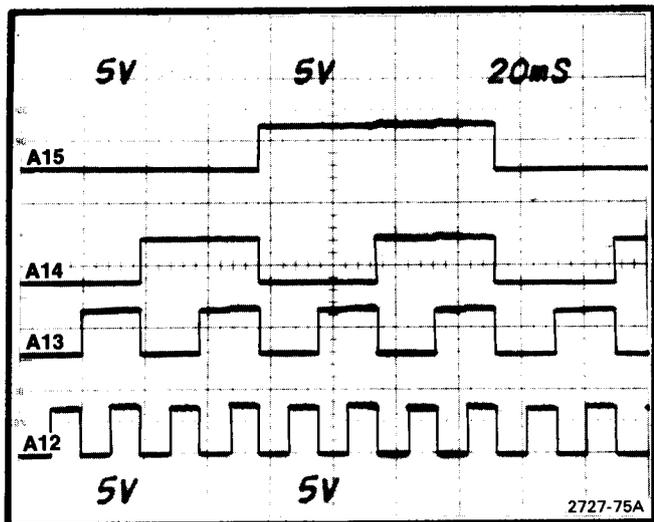

Fig. 4-19. A15 through A12 in microcomputer test mode.
**Microcomputer Bus.** As the microcomputer cycles through its address space, it toggles the address lines. The MSB, A15, has a period of about 1540 ms; the period of A14 through A0 is divided by two from the line above down to the LSB, A0, with a period of about 4.7  $\mu$ s. The four high-order lines, A15 through A12, are shown in Fig. 4-19. Ignore the narrow pulses that may be evident during the low portion of each cycle.